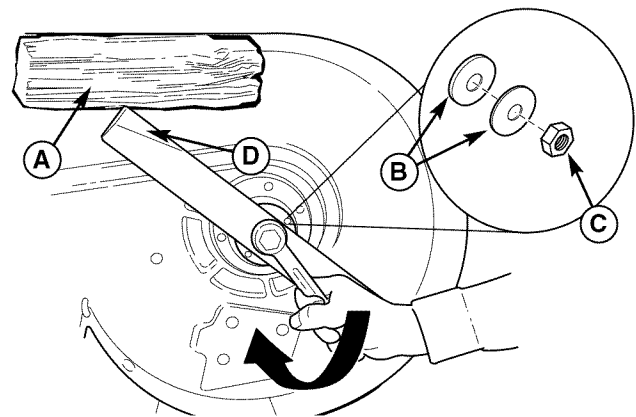

Figure 24. Blade Installation
3. Remove the nut (C, Figure 24), spring washers (B), and blade.
7. Reinstall the blade with the lift wings (D, Figure 24) pointing up toward the mower deck as shown.
8. Reinstall the spring washers (B, Figure 24) and nut (C). Use a wooden block (A) to prevent blade rotation while tightening the nut (C) to 80-90 ft-lbs (108-122 Nm).